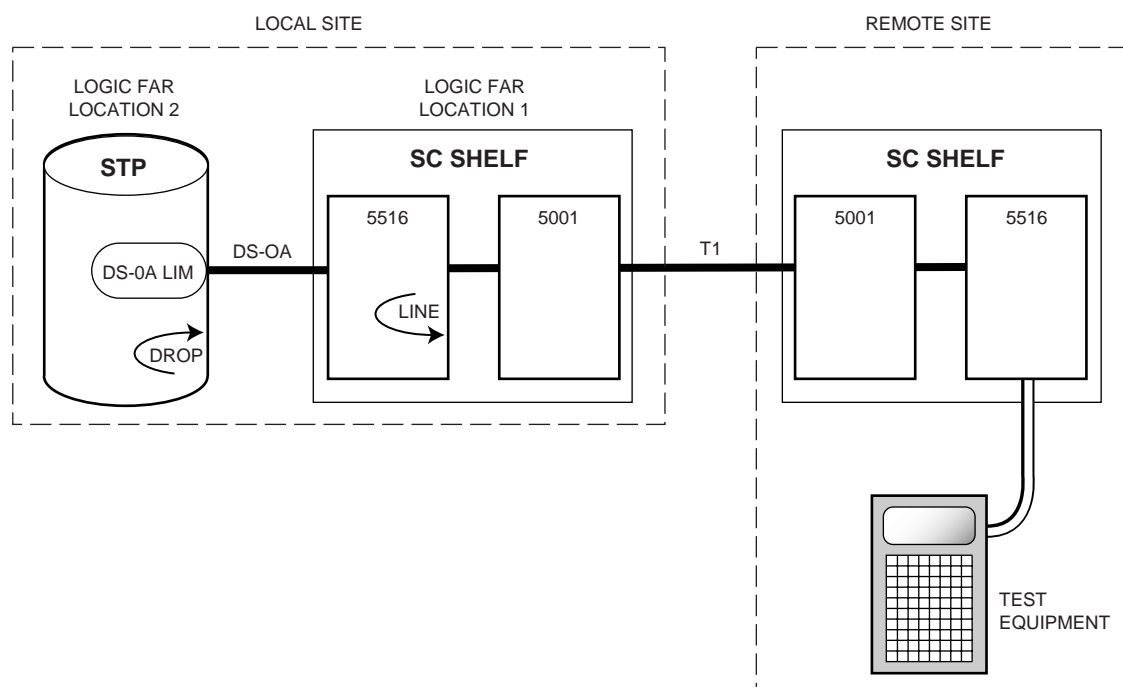
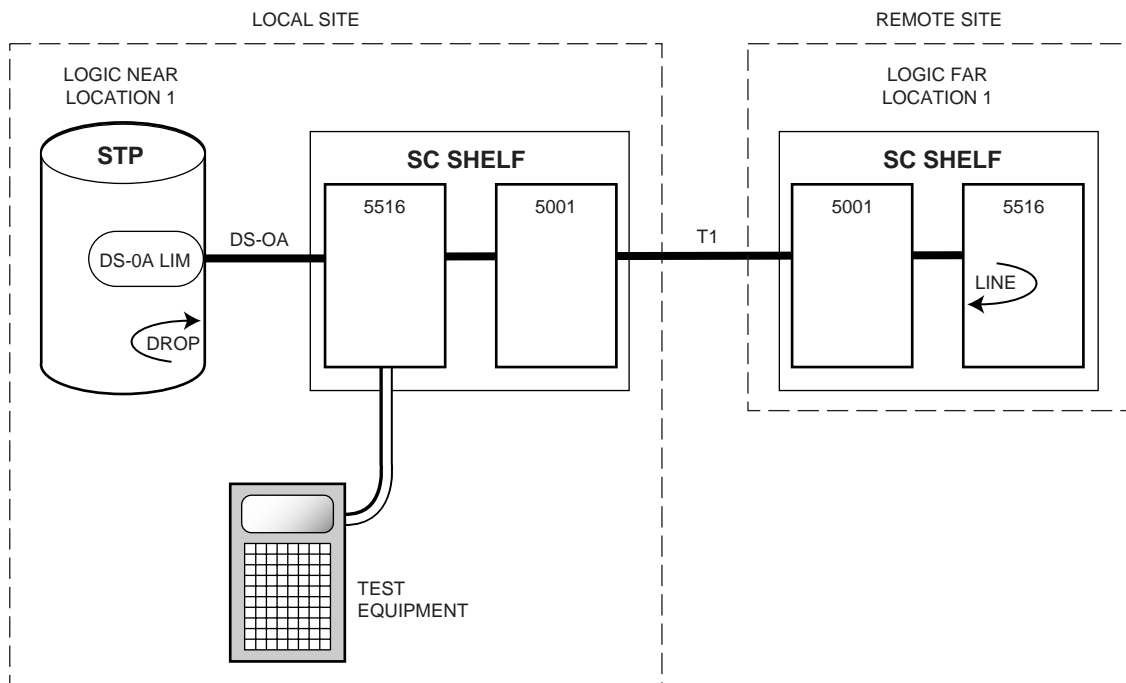

Figure 4-3 Initiating Latching Loopbacks (from Remote DS0)
Figure 4-4 Initiating Latching Loopbacks (from Local DS0)
- You can *initiate* a Latching Loopback test via the unit's front panel DB-9 clock connector and data Bantam jacks, and the clock interface. Refer to Figure 4-3 and Figure 4-4.